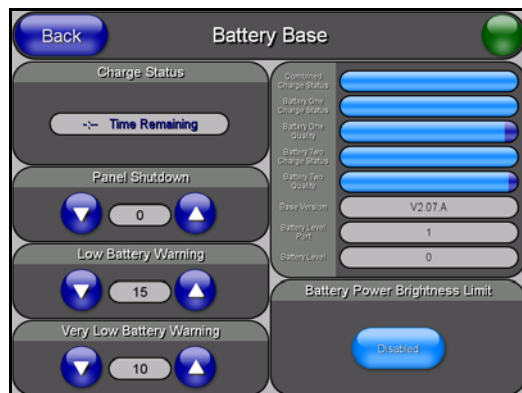

FIG. 100 Battery Base page
3. Press the **Battery Base** button to open the Battery Base page (FIG. 100).